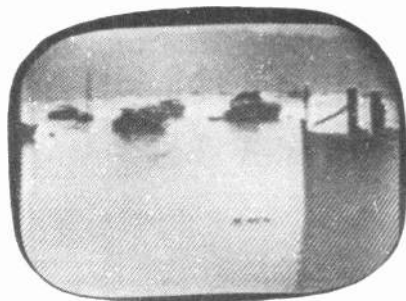

Fig. 3-I. *Strong interference produces diagonal lines on screen.*
**SERVICE:** When a strong local station is in the area, it may be very difficult to receive a more distant adjacent channel. Solutions consist of careful adjustment of the adjacent-channel traps of the receiver, plus realignment of the tuner and video if stages so the bandpass characteristics are not too broad. An additional lower-adjacent-channel trap can also be installed in the video if stages. These measures will block the local station sufficiently to permit reception, though the diagonal line interference shown in Fig. 3-I will probably still appear in the picture.